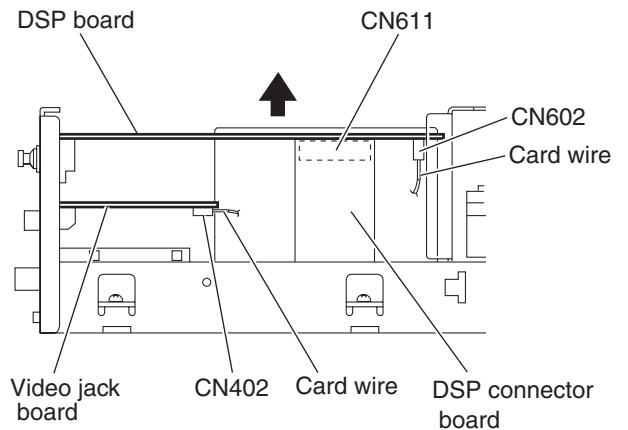

Fig.7
- (2) From the top side of the main body, disconnect the DSP board from the connector CN611 on the DSP connector board. (See Fig.7.)
- (3) From the left side of the main body, lift the DSP board in the direction of the arrow and disconnect the card wire from the connector CN602 on the DSP board. (See Fig.7.)
- (4) Take out the DSP board.
- (2) Disconnect the card wire from the connector CN402 on the video jack board and take out the video jack board. (See Fig.7.)